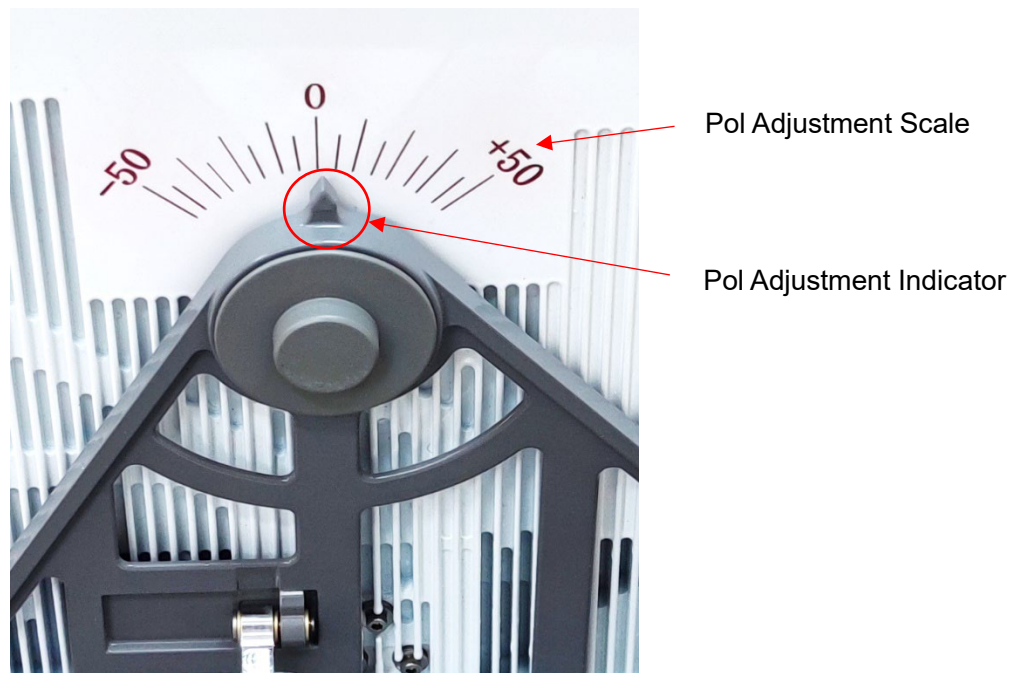

**Figure 5-15 Handle, El coarse adjustment button**
2. Elevation coarse adjustment: Press the elevation coarse adjustment button with the right middle finger, press the handle with the index finger, and lift the panel upward with the left hand, that is, release the fixed lock between the Terminal panel and the base frame, and adjust the elevation adjustment mechanism to make the current elevation angle consistent with the reference elevation angle, as shown in Figure 5-15 and 5-16.